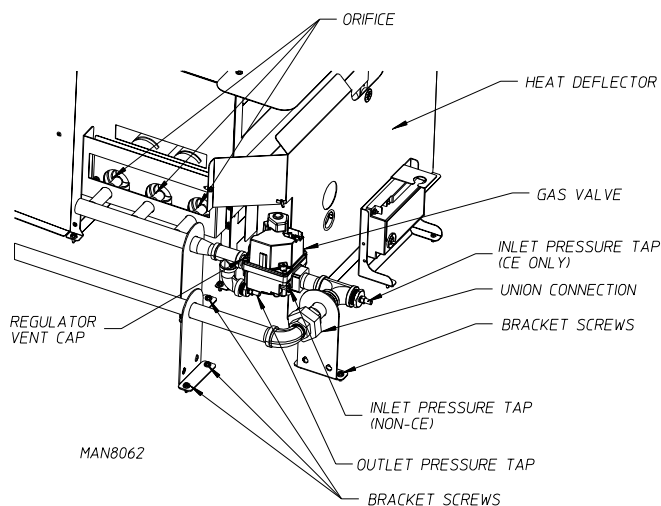

FIGURE 5
4. Remove (4) screws holding heat deflector, then move it to the right approximately 4-inches as shown in figure 5.
6. Remove (4) screws from the brackets that are holding the gas valve/manifold assembly to the top console base. Remove the gas valve/manifold assembly from the dryer.
7. Unscrew (3) main burner orifices from the manifold and replace with the (3) propane orifices provided.
To adjust gas valve’s internal regulator, remove the regulator vent cap (figure 5). Turn the plastic adjustment screw in the valve. Turn the screw clockwise to raise pressure and counterclockwise to lower pressure.
CE Dryers: Back out miniature screw inside pressure tap and attach manometer. Refer to figure 5 on **page 23**.
Non-CE Dryers: Install pressure tap and attach manometer. Refer to figure 5 on **page 23**.